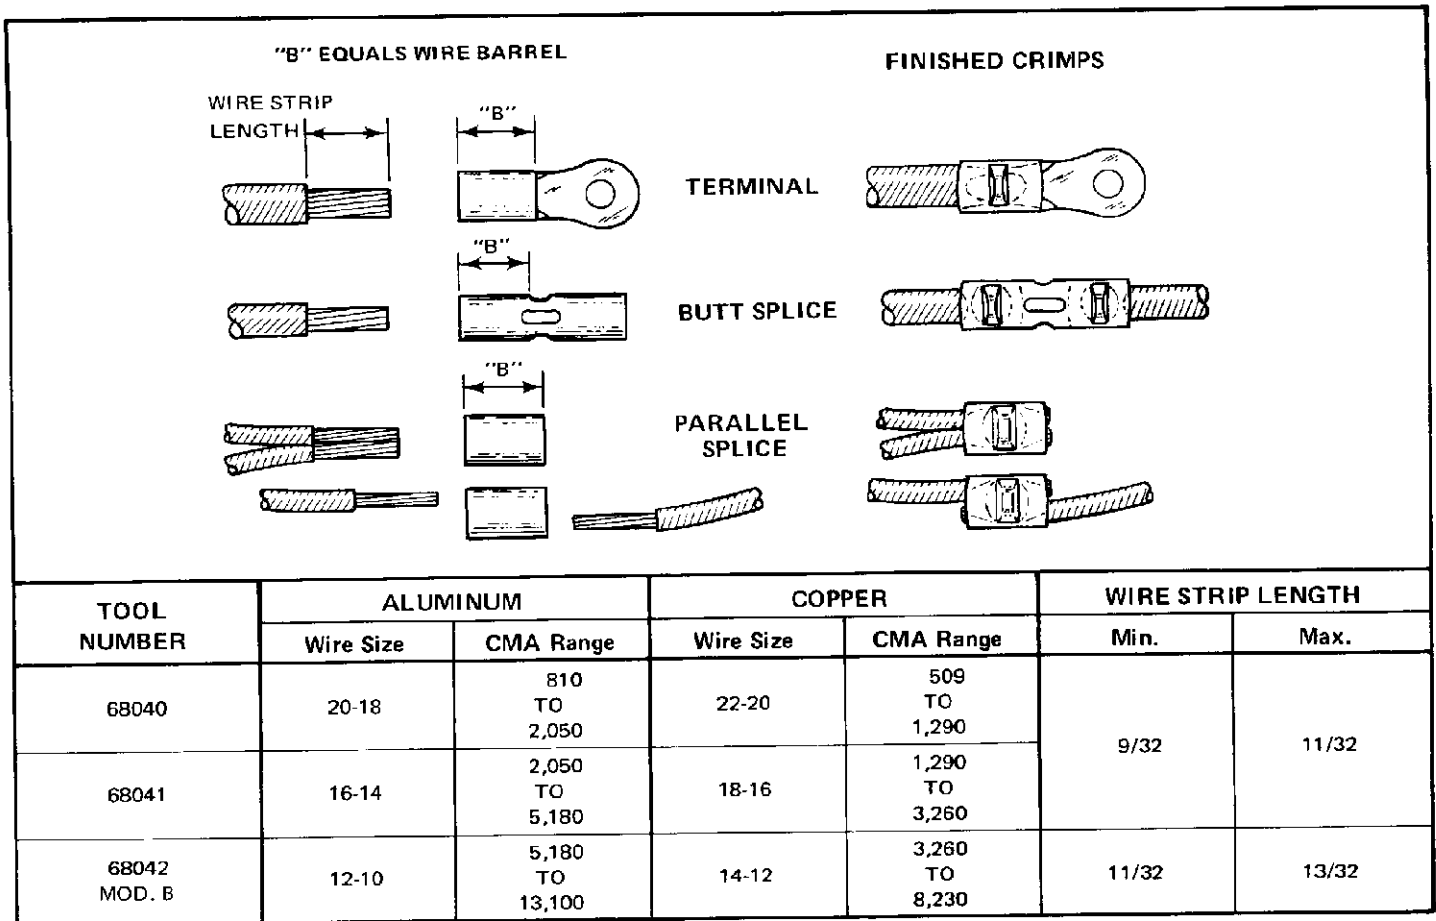

Figure 2
- Determine correct splice wire loading by referring to CMA range listed in Figure 2. Total CMA of wires crimped in parallel splices must be within CMA range of splice.
- Strip wire to dimensions listed in Figure 2.
NOTE: For aluminum-to-aluminum applications, butt splices will accept the same wire size at either end. For aluminum-to-copper applications, however, the size of the copper wire must be "stepped down" one smaller wire size to compensate for differences in the physical properties of copper and aluminum. See Figure 2.
- Crimped terminals and splices should appear as shown in Figure 2.